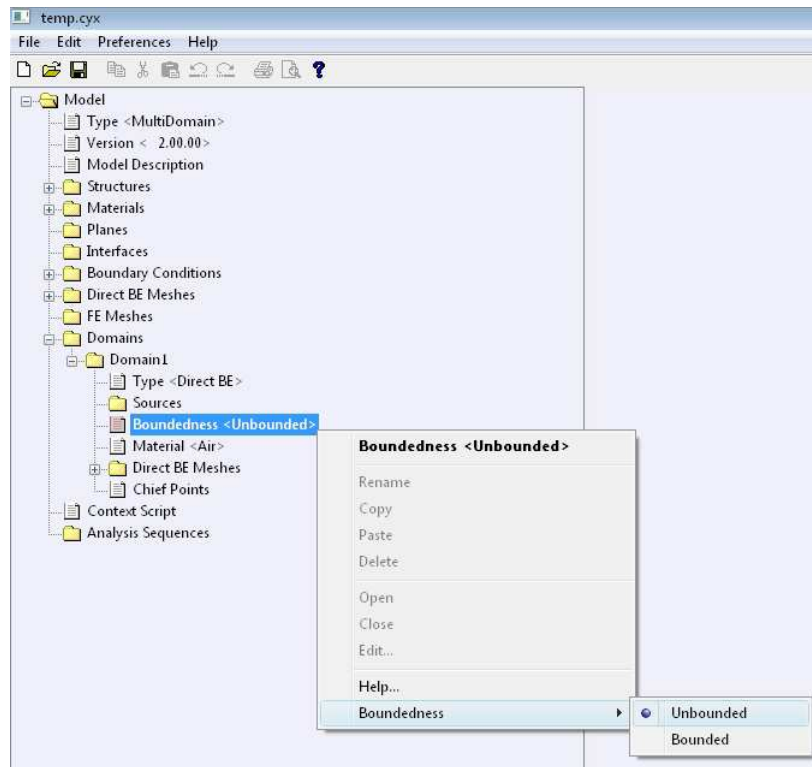

Figure 20: Specifying boundedness of the domain.
- Specify the type of acoustic problem by selecting: **Model > Domains > Domain1** or *<Domain Name>* > **Boundedness**. The radiation from a gearbox housing is an exterior or unbounded acoustic problem. Right-click on **Boundedness** and select: **Boundedness > Unbounded** as shown in Figure 20.